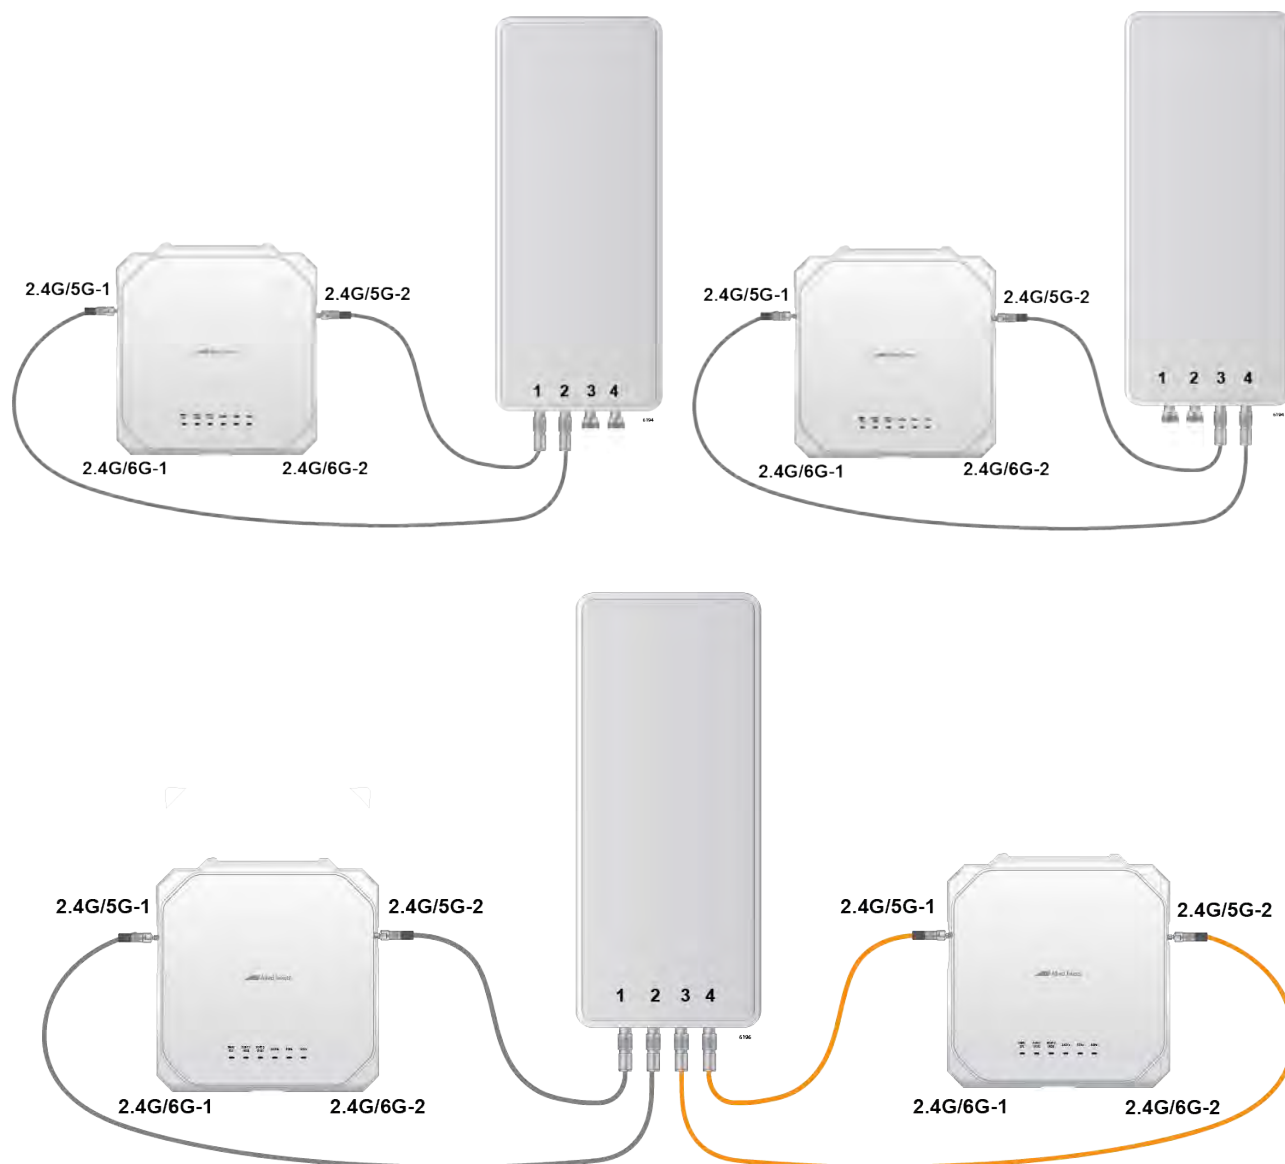

Figure 33. TQ7403 Access Point and TQ0301 Patch Antenna Configurations
- ☐ The TQ7403 access point can be installed in the configurations shown in Figure 33 on page 62.
3. Determine which antenna connectors to use by referring to Figure 33 on page 62.